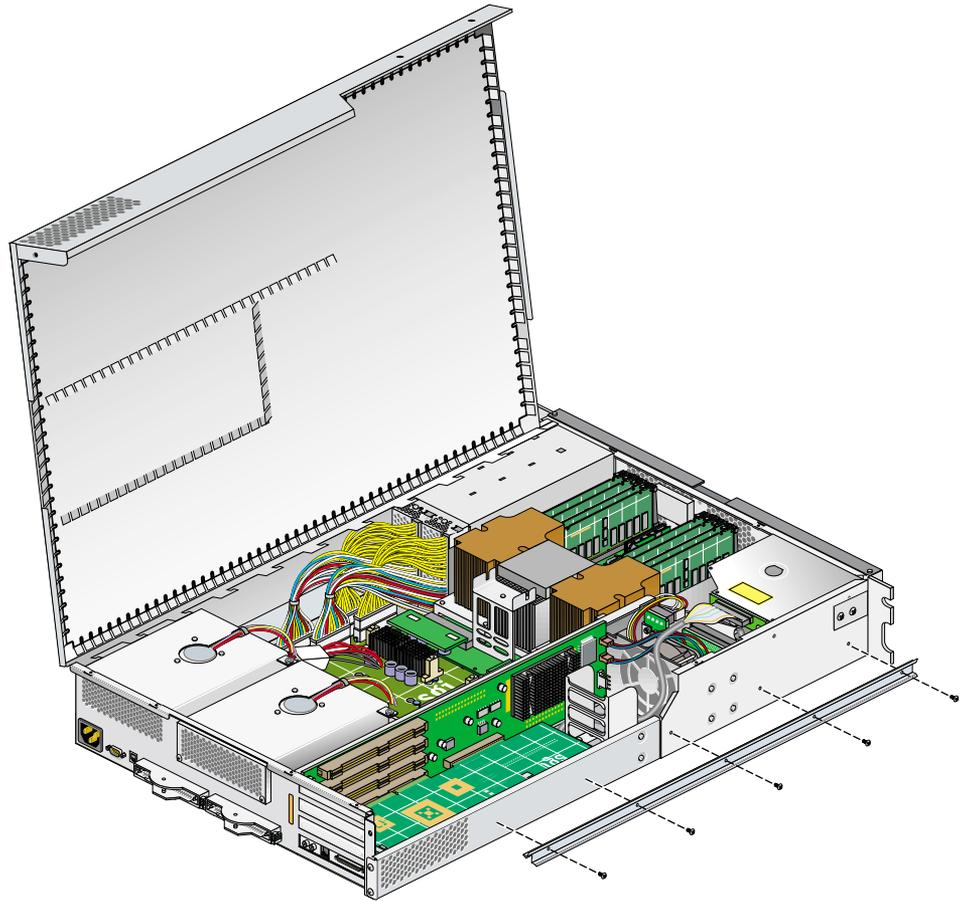

Figure 7-16 Replacing the Optional Chassis Rail
13. Replace the optional chassis rail (if applicable), by attaching the five Phillips screws, as shown in Figure 7-16.